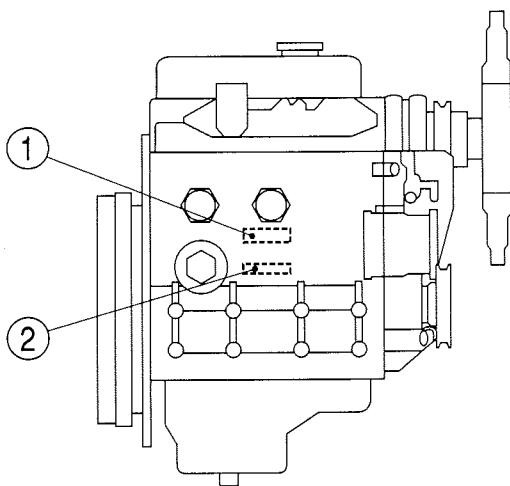

FIG. 4
ENGINE MODEL NUMBER (Fig. 4 (1))
ENGINE SERIAL NUMBER (Fig. 4 (2))